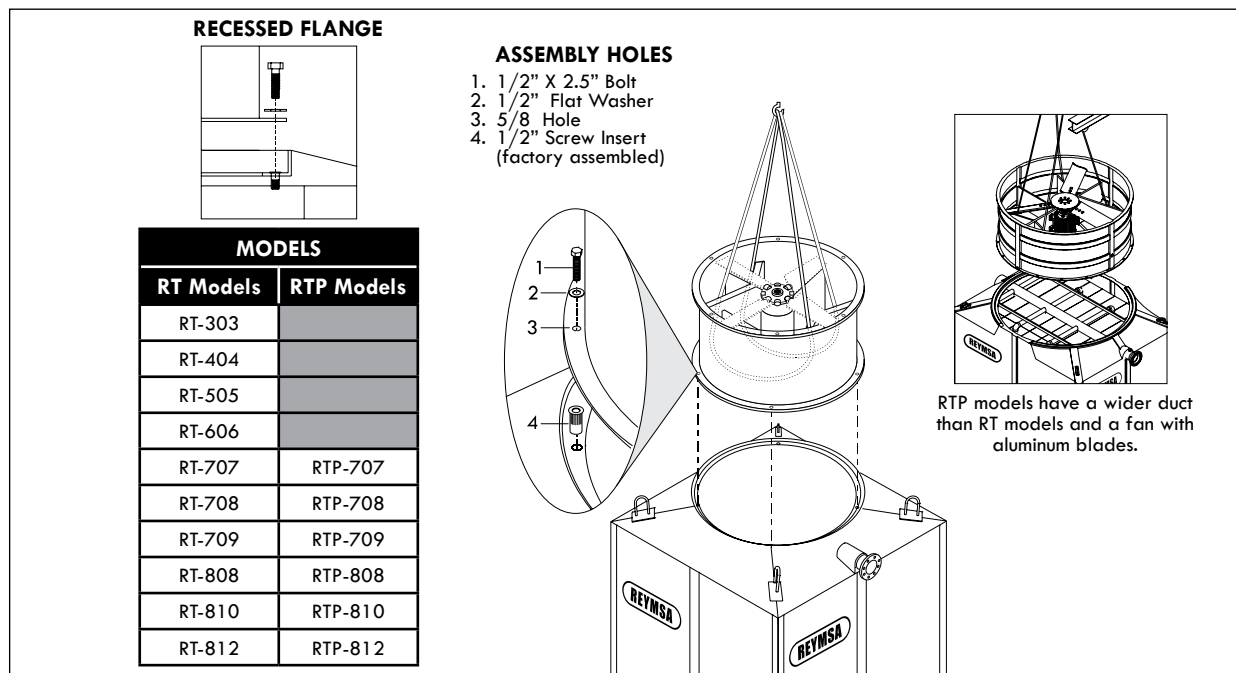

Figure A-11: Fan Duct assembly for a Single Fan Tower
- M.** Then cradle/straddle the fan support with the straps (as shown in figure A-11) so you can lift the fan duct with a crane and assemble it.
- N.** Now place the fan duct on the receiving flange of the upper section; make sure the bolt holes and the marks inside the fan duct and the distribution manifold (located inside of body section) are aligned (see Figure A-11 and A-12). Secure it with the stainless steel nut and bolt sets supplied by REYMSA.